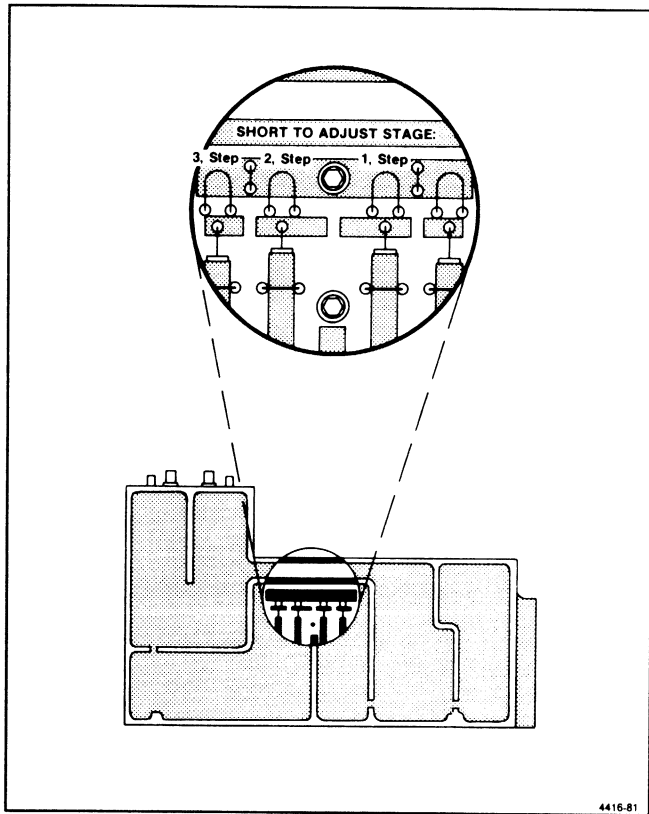

Figure 6-15. 829 MHz Converter filter tune tabs.
f. Adjust the  $1/4$  wavelength lines in the filter in sequence, starting with the resonator at the 829.1 MHz input (see Figure 6-15). Adjustment is made by shorting the adjacent resonator to ground with a low inductance conductor, such as a broad blade screwdriver, then bend the loop or tab of the respective stub with a non-metallic tuning tool to change the series capacitance of the resonator.